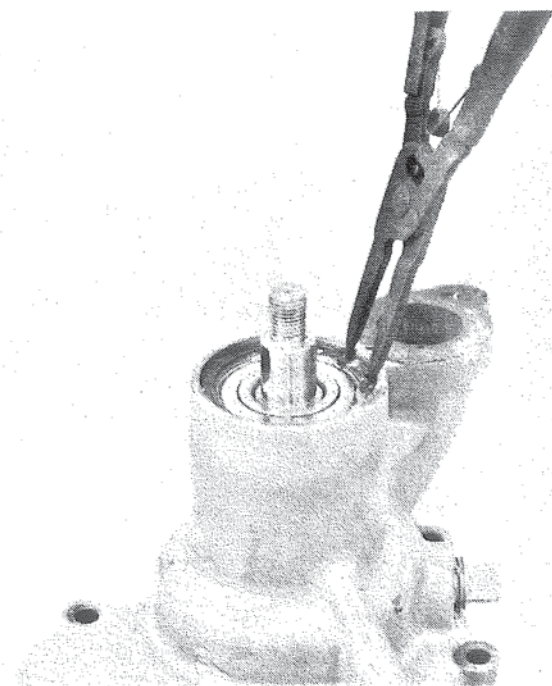

Figure 15. Installing Retaining Ring.
5. Install retaining ring into groove. Figure 15.